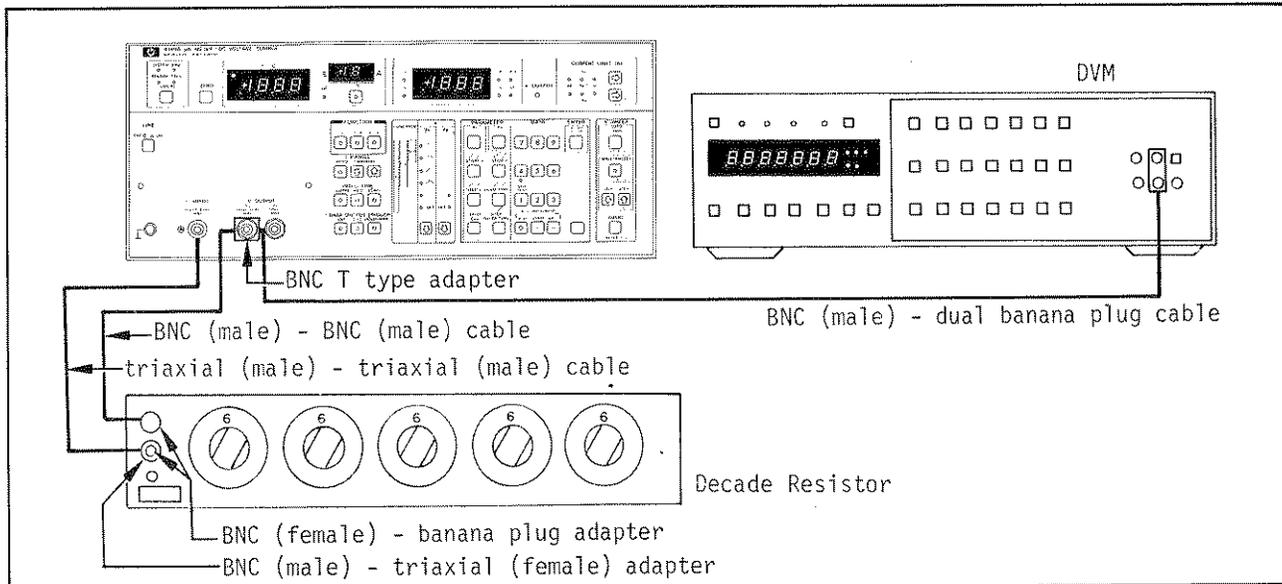

Figure 4-2. Current Measurement Accuracy Test Setup ($10^{-2}A \sim 10^{-7}A$ Ranges).
1. Connect 4140A, DVM and Standard Resistor as shown in Figure 4-2 or 4-3